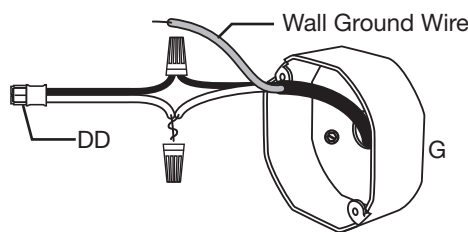

Fig 4
2. Remove Mounting Plate (B) from Light Fixture (A) by removing pre-installed Mounting Plate Screws (AA).
3. Align Mounting Plate (B) on wall centering over Electrical Box (G). Make certain the Mounting Plate bottom is facing downward.
4. Mark location of Wall Mounting Screw Holes (D) with pencil/pen.
5. Remove Mounting Plate (B) from wall and drill holes using 7mm (9/32") drill bit
6. Insert Plastic Wall Anchors (FF).
7. Wire Capstone Quick Connector (DD) to Electrical Box (G) using Wire Nuts (CC) (white wire to white wire and black wire to black wire) (Fig 4).